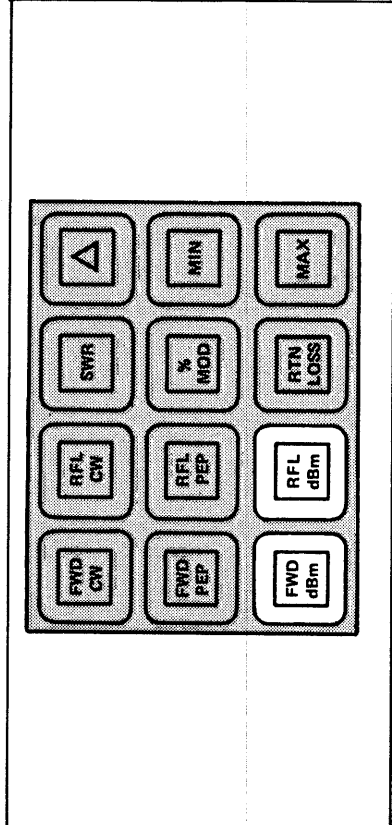

Figure 3-6. CW Power in dBm.
f. **Measuring Power in dBm.** (Figure 3-6.) Operation of the forward and reflected dBm modes is identical to the forward and reflected CW power modes, except that the resulting reading is converted to dB above 1 milliwatt before it is displayed. It should be noted that in doing this conversion, the range set on the slide switches is assumed to be watts rather than kilowatts or milliwatts. If it is not, 30.0 must be added to all dBm readings when the range is in kilowatts, or subtracted from all readings when it is in milliwatts. An error message is displayed if CW power is more than 24dB below, or peak power is more than 6dB above the nominal element range. Refer to Table 3-3.